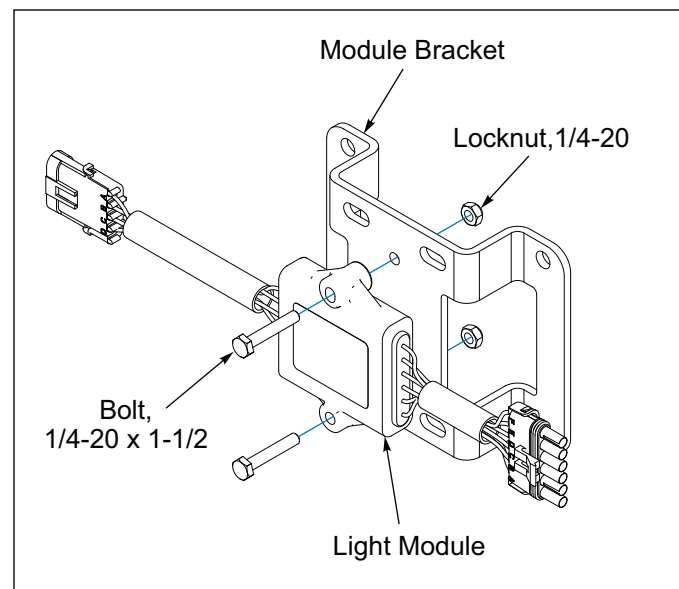

Figure 2-14: Light Module and Bracket
7. Attach the Light Module to the Module Bracket with 1/4-20 x 1-1/2 Bolts and Locknuts. **See Figure 2-14.**